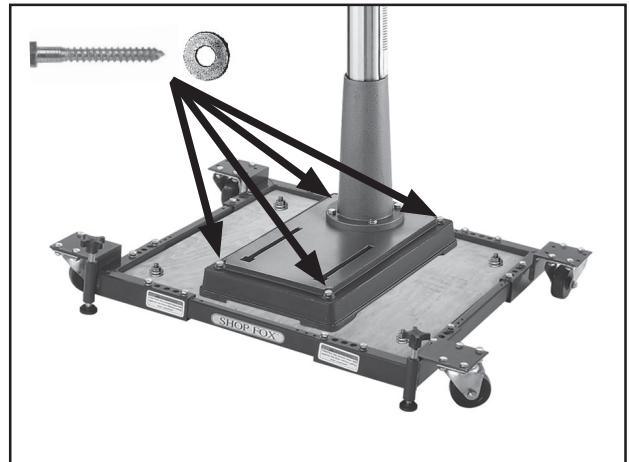

Figure 24. Drill press mounted on mobile base, using a base plate for support.
If you must use a mobile base, **ALWAYS** mount your drill press to a base plate inside of the mobile base, as shown in **Figure 24**.
9. Mount the drill press to the base plate with lag bolts and flat washers (**Figure 24**); or with through bolts, flat washers, and hex nuts.